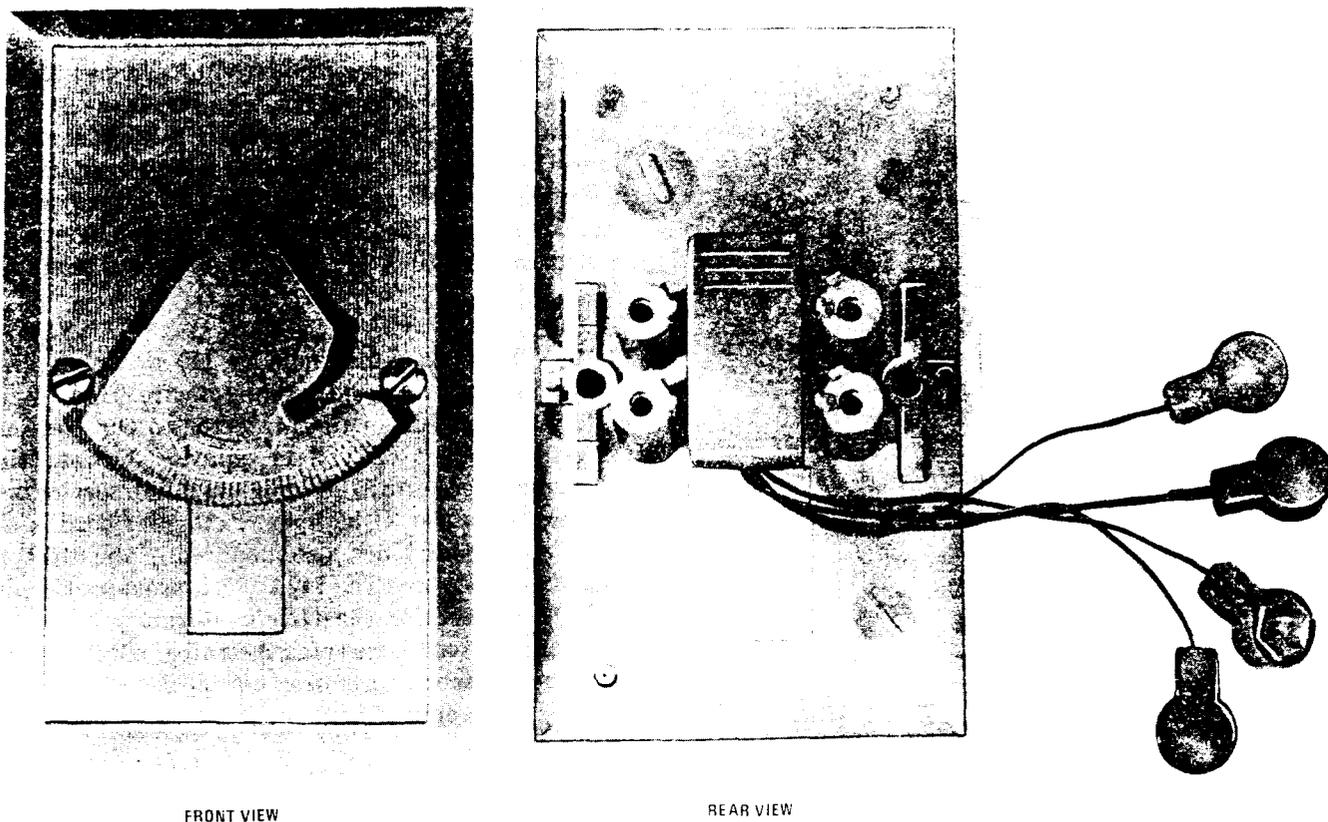
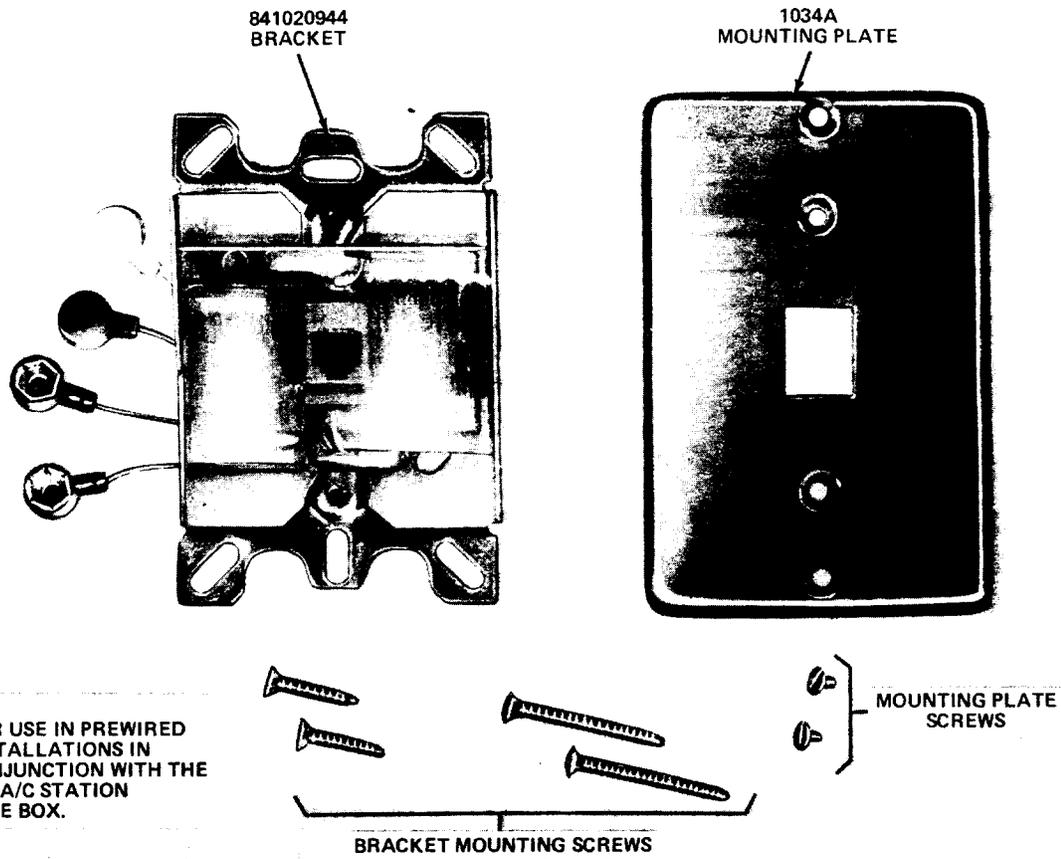
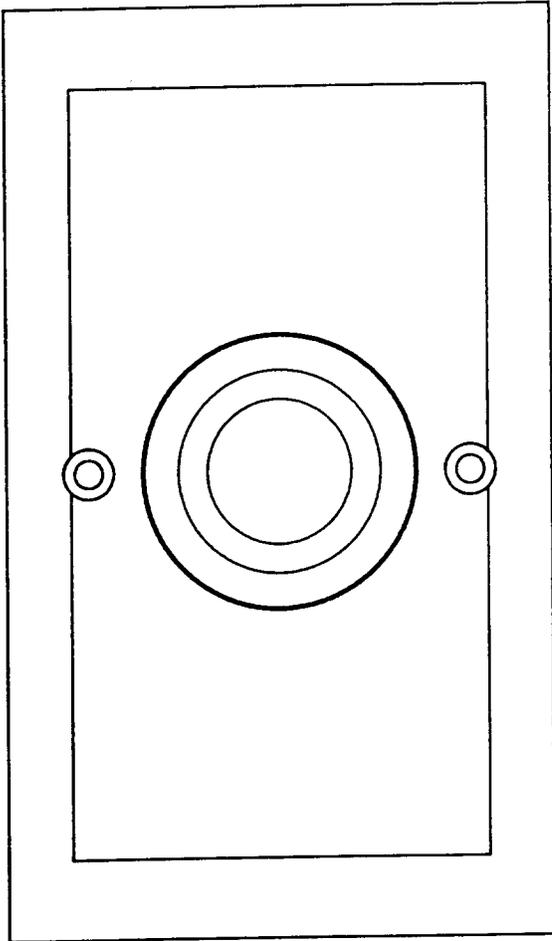

Fig. 3—725FS Connecting Block
Fig. 4—830A4 Connecting Block
Fig. 5—65B Faceplate
2.03 The 800C station wire box is made of a high-impact plastic (Underwriter Laboratory Fire Rated) with four 990A split-beam connectors inside the box and a mounting flange around the outer edge. This flange allows for varying mounting conditions using nails or sheet metal screws. A temporary protective cover is provided with the box to protect the interior wiring during construction. The box is intended to mount the 725FS connecting block (Fig. 3) for desk-type telephone set installations and 830A4 (Fig. 4) connecting block for wall-type telephone sets. The 65B faceplate assembly (Fig. 5) is intended for use at unused telephone outlets.